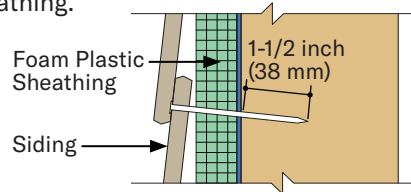
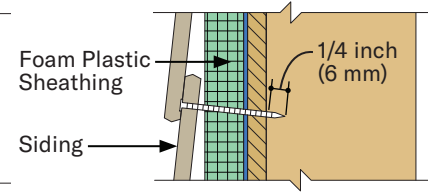

Figure 4a
Figure 4b
- Increase nail length to ensure a min. 1-1/2 inch (38 mm) penetration into studs, or combination of studs and WSP sheathing (Figure 4a), or WSP sheathing only attachment. (Figure 4b)